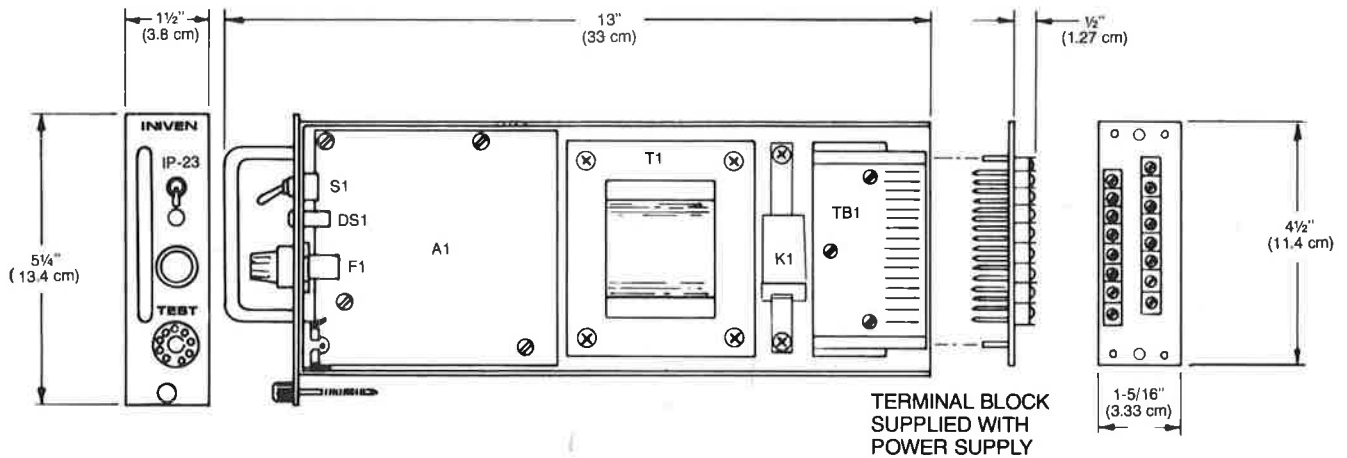
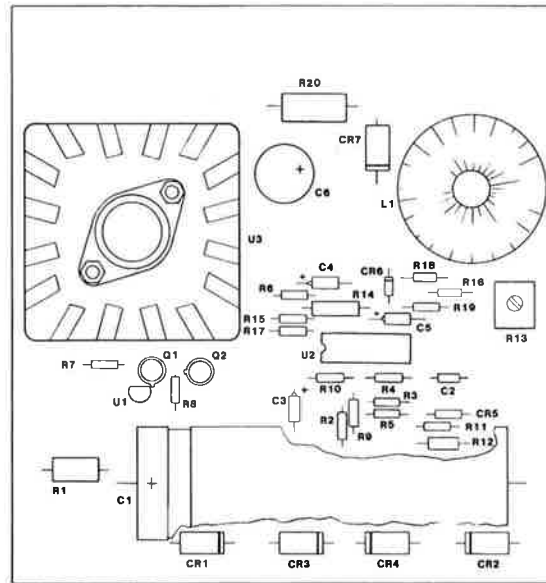

Figure 3. IP-23/IP-23R Power Supply — Dimensions and Component Identification.
Figure 4. Printed Circuit Board Assembly A1
Dimensions: (See Figure 3)
The following parts list is included to facilitate maintenance of the IP-23/IP-23R Power Supply. All parts are listed in order of their reference designators, as applicable. Figure 3 exhibits the major components of the power supply. Figure 4 is a component diagram of printed circuit board A1.
5. IP-23/IP-23R Power Supply Assembly (see figure 3). The "Usable On Code" column identifies parts/assemblies which apply to only one particular power supply model. If the "Usable On Code" column is left blank, the part/assembly applies to all models.
5.2 Printed Circuit Board Assembly A1 (See figure 4)